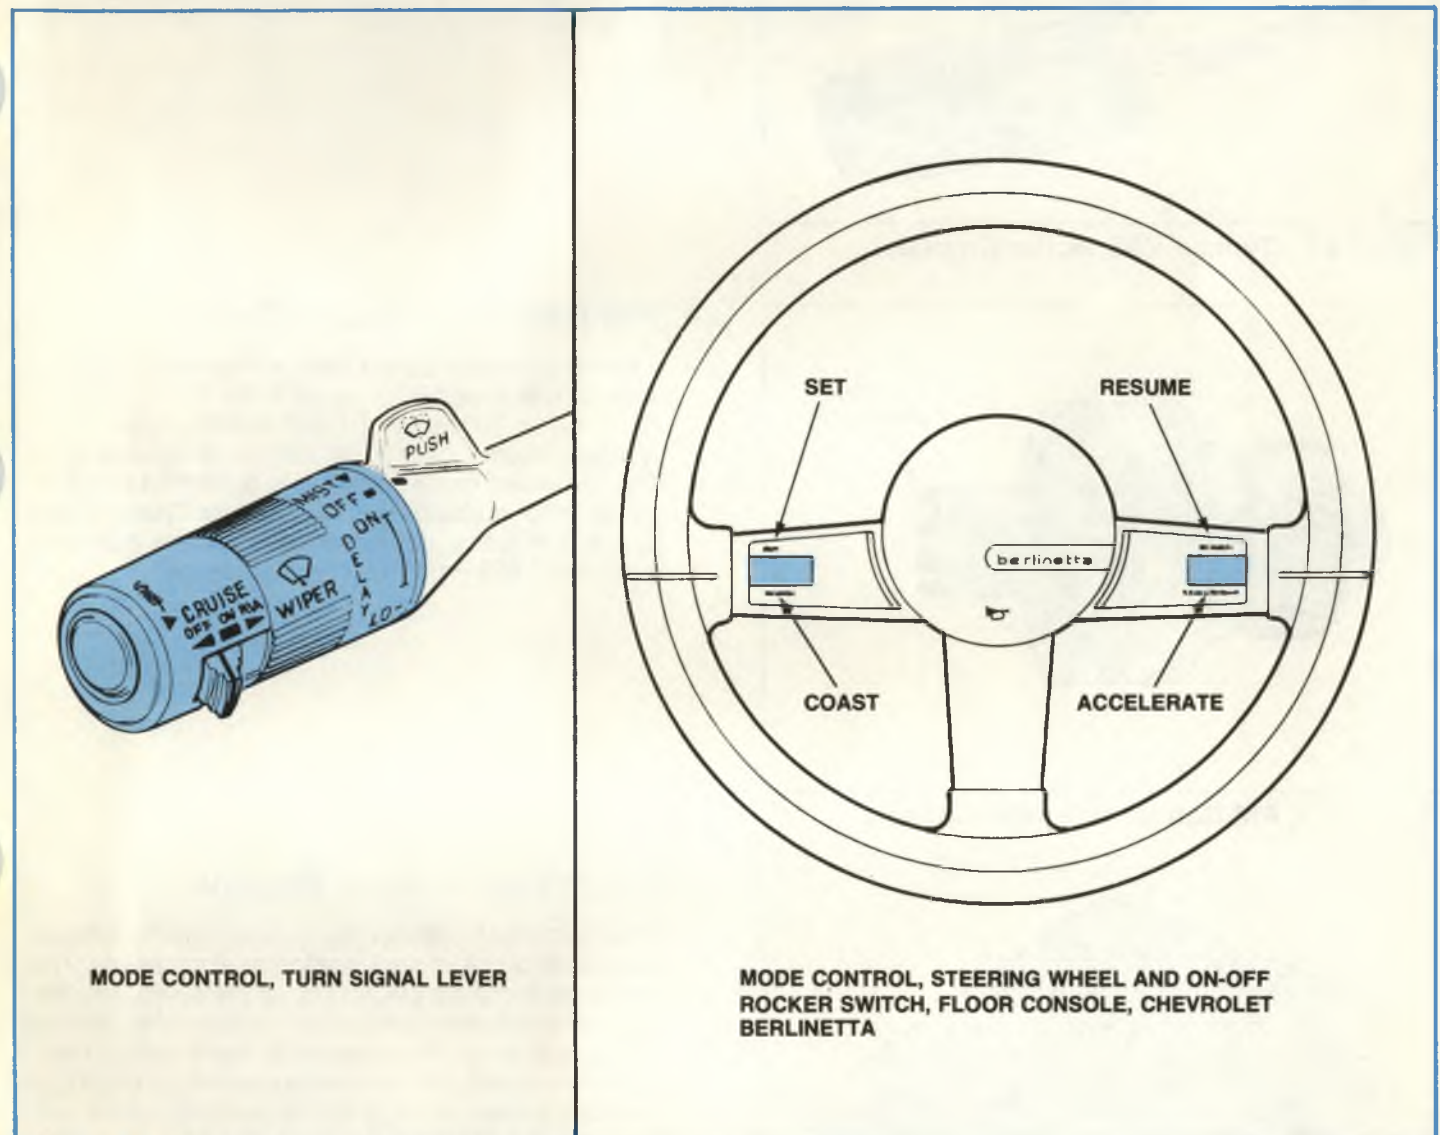

Figure 2-1, Mode Control Switches.
**Turn Signal Lever** — The various operating modes of the Custom Cruise III system are controlled by means of the Mode Control Switches normally located on the turn signal lever (figure 2-1).
**Steering Wheel** — Custom Cruise III operating modes are controlled by Mode Control Switches built-into the steering wheel on 1984 Chevrolet Berlinetta (figure 2-1) . . . ON-OFF is a rocker switch on the floor console.